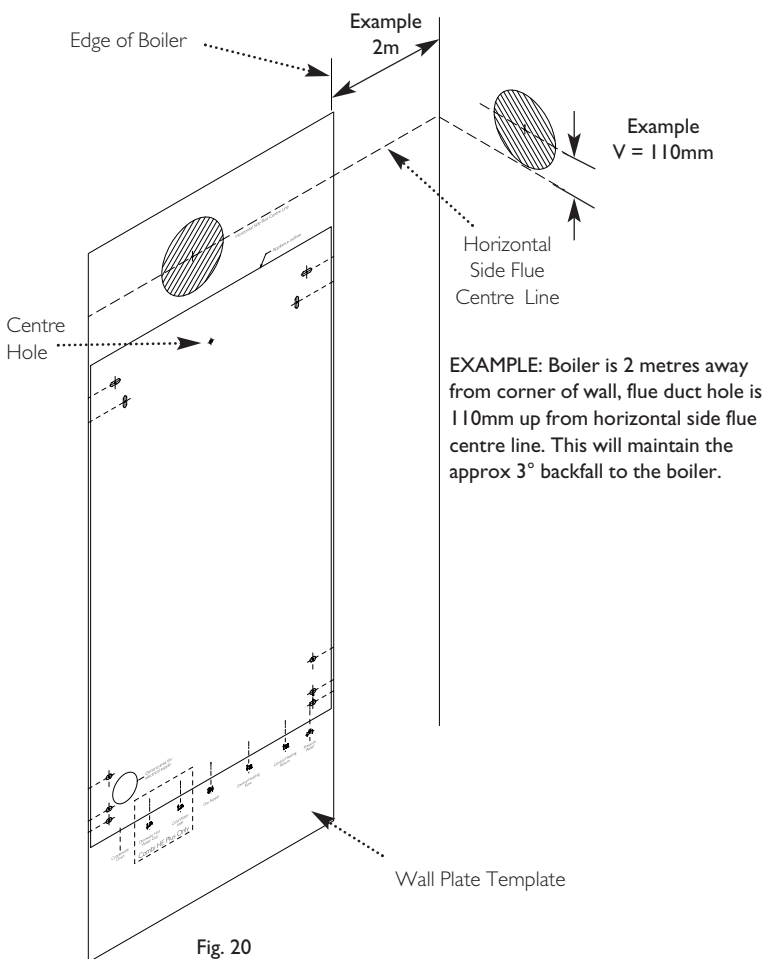

Fig. 20
1. Remove the fixing template (Fig. 20) from the fixing carton.
**For side exit:** project the horizontal side flue centre line into the corner of the room and along the wall to where the flue hole will be drilled (Fig. 20).